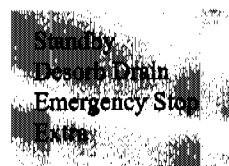

Figure 4.41. Input signals
- Press either [2 ▼] or [8 ▲] to scroll through the input signals. They appear on the U/D line (Figure 4.41).